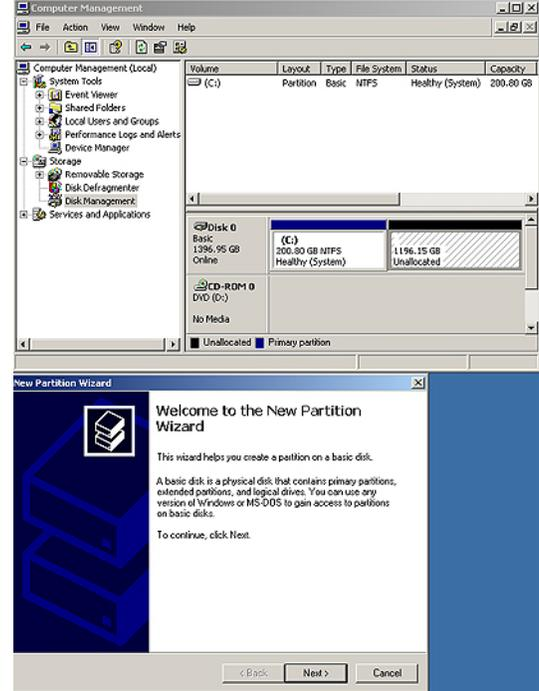

Figure 2-65
35) Right-mouse-click in the **Unallocated** area and select the **New Partition** item in order to be presented with the **New Partition Wizard** as shown in Figure 2-65.